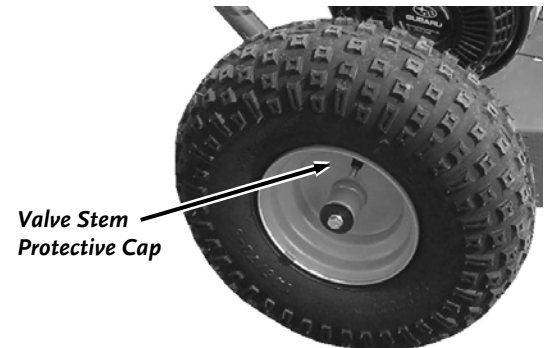

Figure 26
1. Remove the Valve Stem Protective Cap (**Figure 26**) and check the tire pressure with a Tire Pressure Gauge.